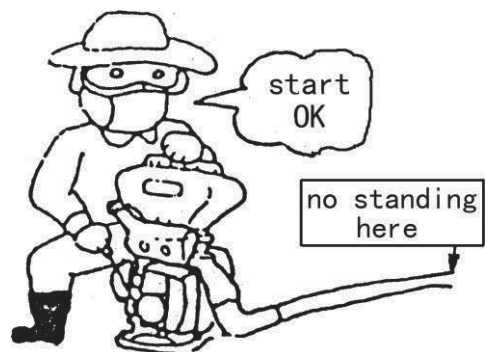

Fig.14
5. Starting engine (Fig 14)
though dust gate is closed, residual dust in pipe will be blown out. Shown in Fig 14.